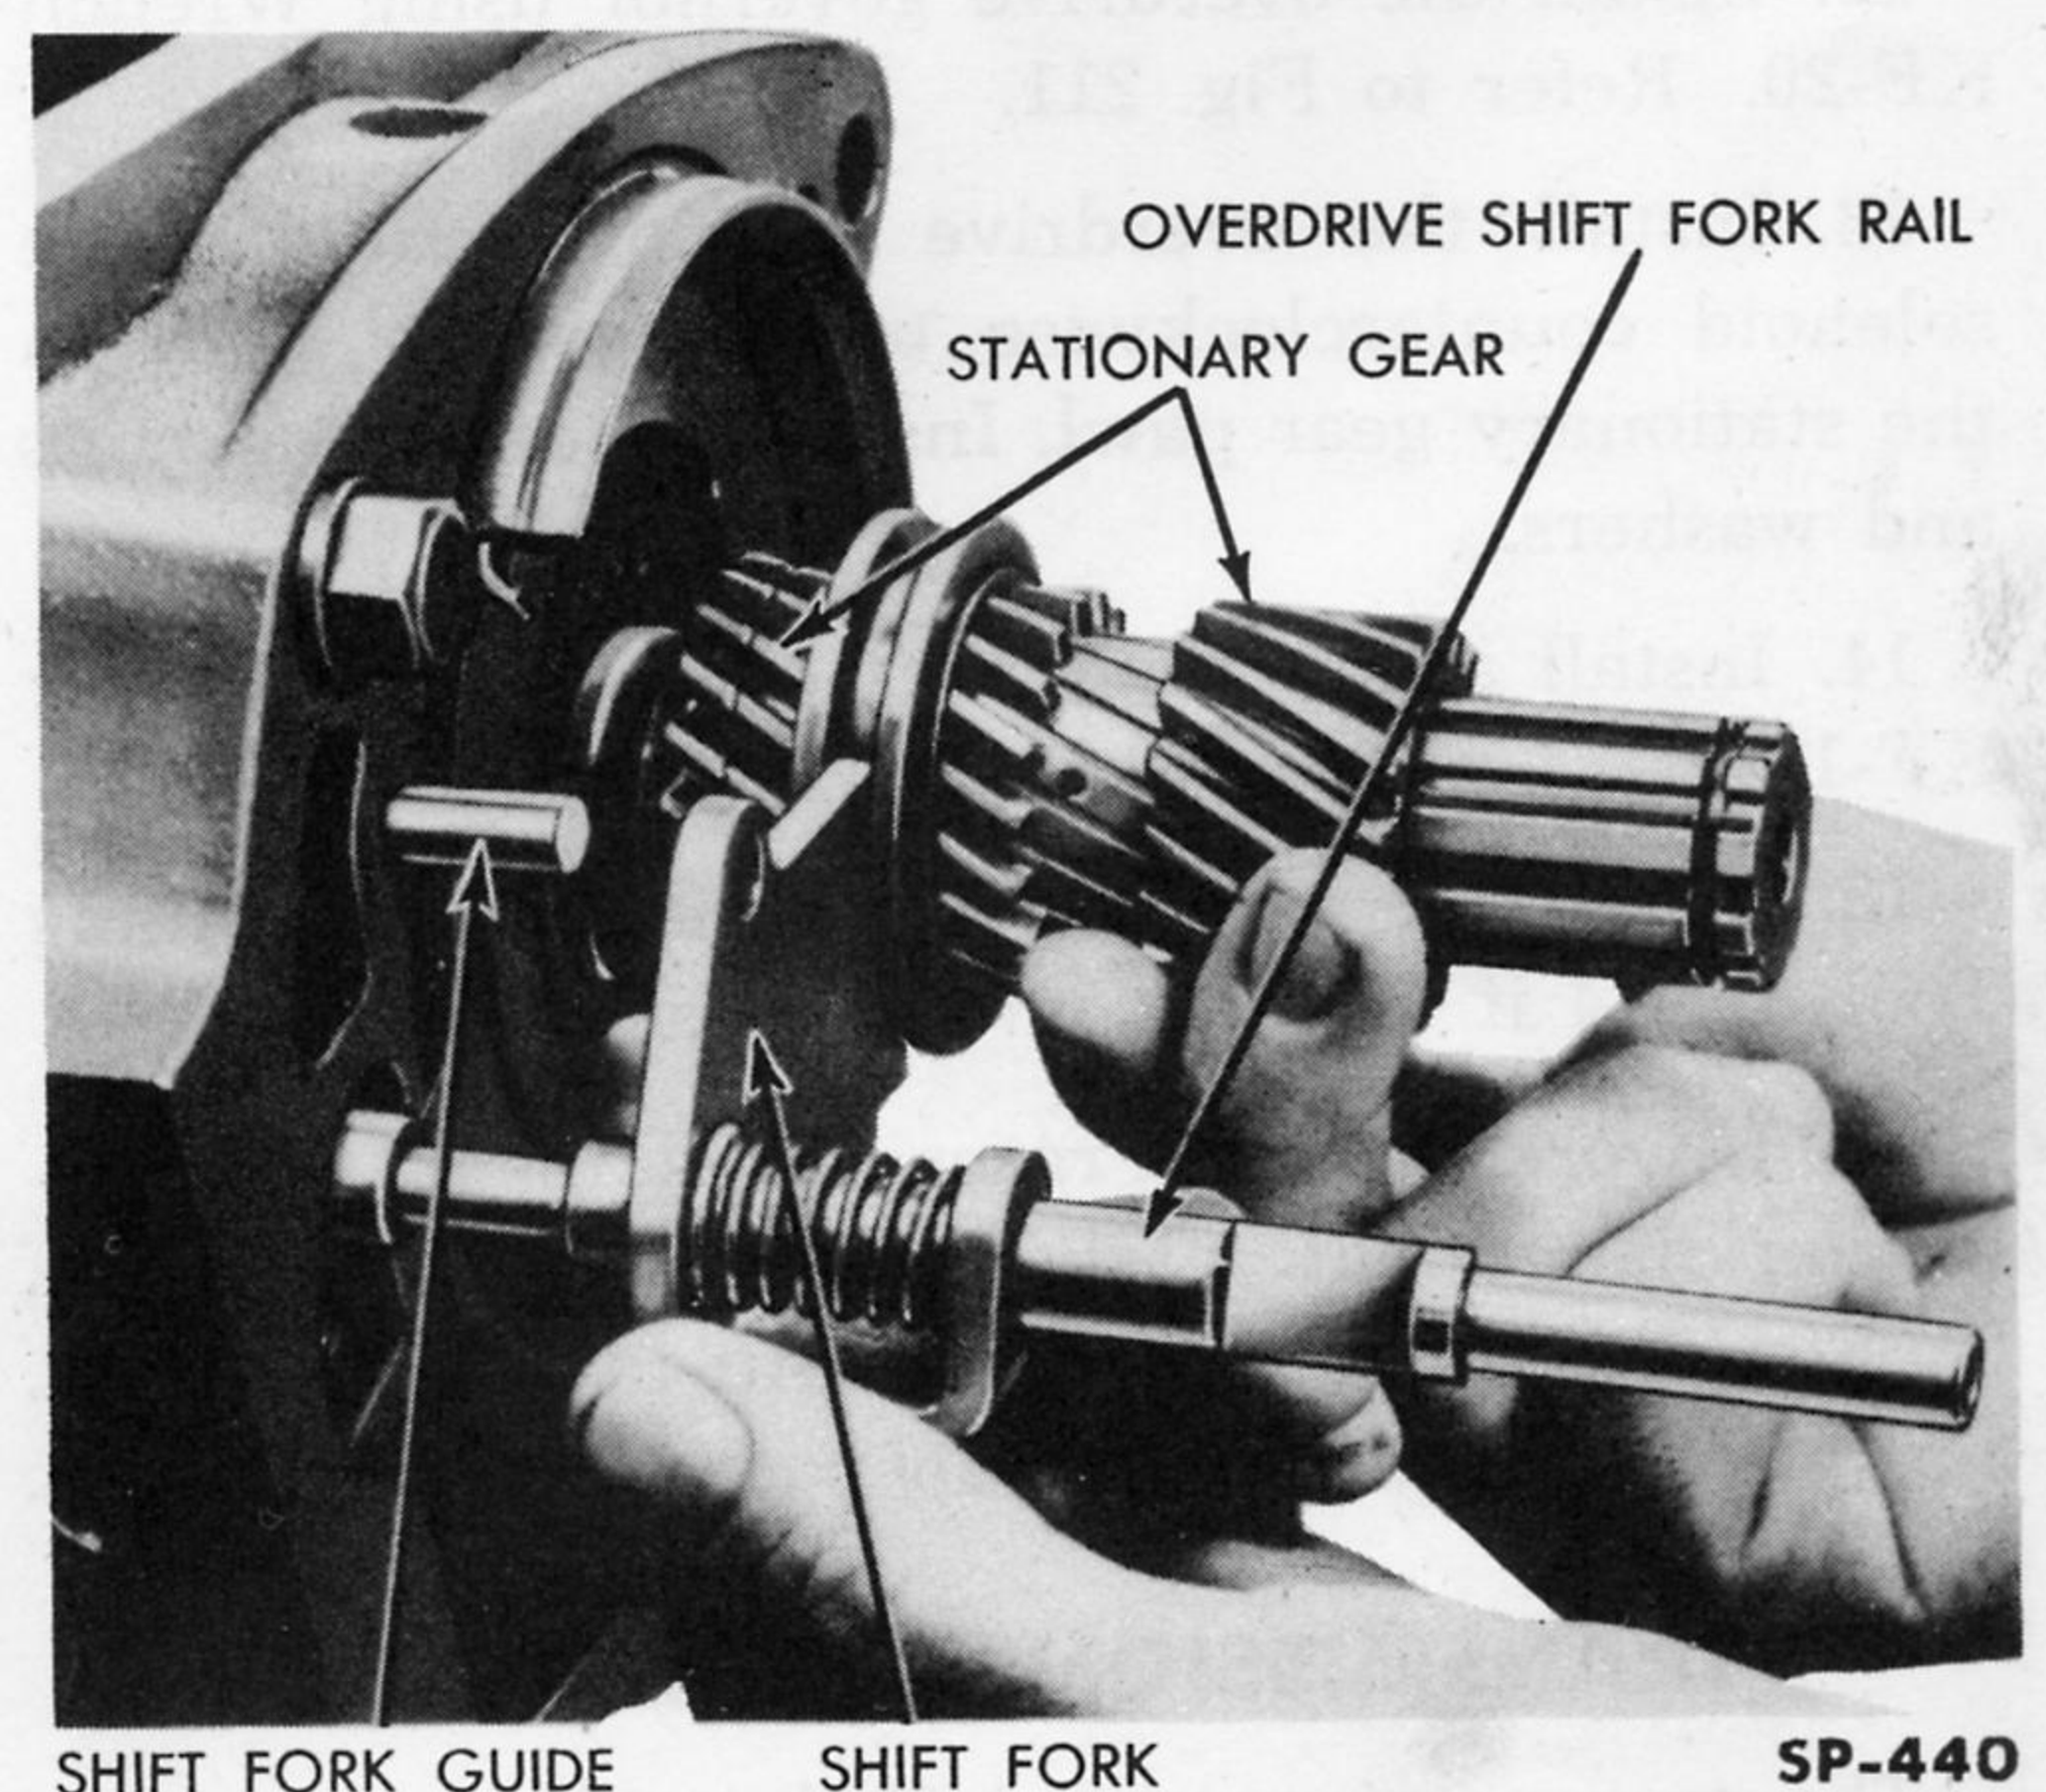

Fig. 222—Installing Stationary Gear and Shift Fork Rail Assembly
5. Install the stationary gear and the shift fork rail assembly together (Fig. 222).